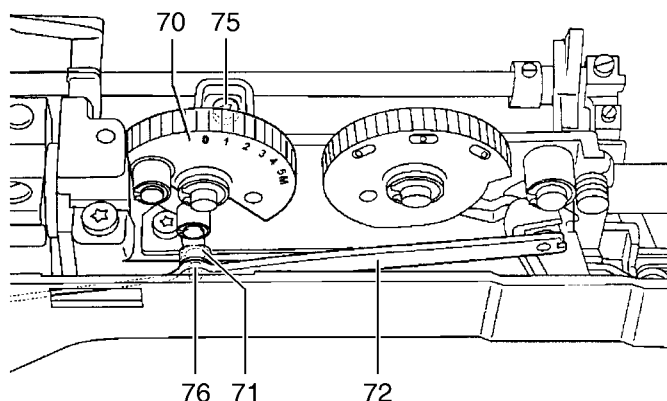

Fig. 45
- Remove the two circlips 99 (fig. 45).
- Loosen fastening screws 75 (fig. 45).
- Insert plastic angle lever 100 together with pull rod 93 (fig. 45).